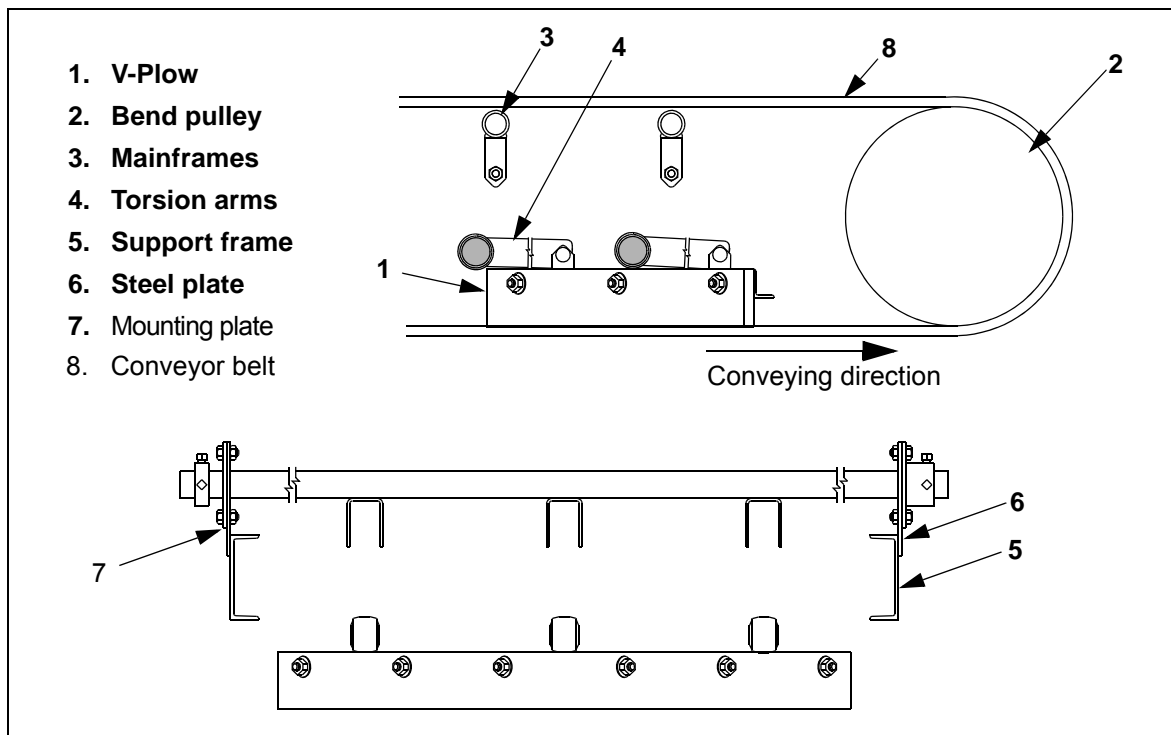
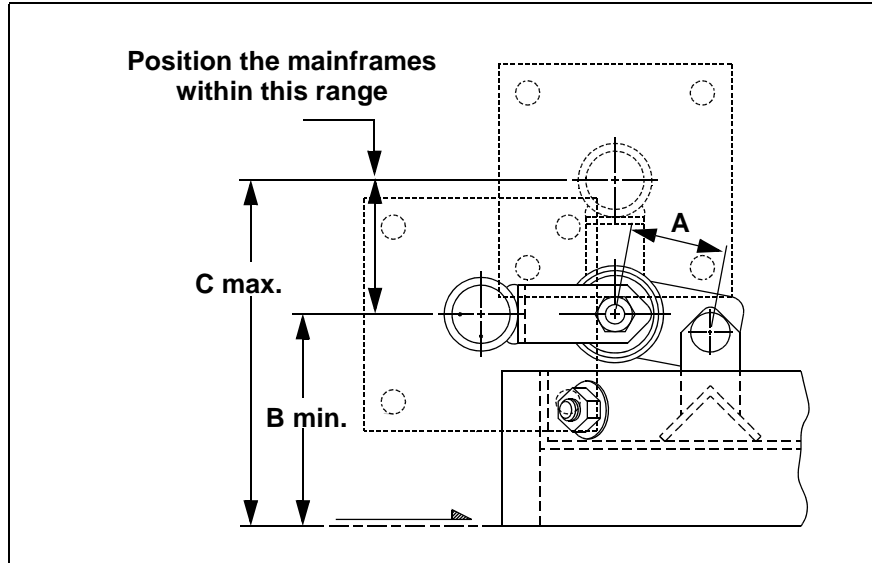

Fig. 1: Positioning of the MARTIN® TORSION ARM™ V-Plow on the conveyor belt
Fig. 2: Installation position of the mainframes
2. Position the mainframes (3, Fig.1) in accordance with Table (Tab. 3) and Figures 2 and 3.
- Example: The main frames can be positioned between 240 mm (2, Fig.1) and 323 mm above the conveyor belt when the torsion arm (4, Fig.1) with an arm length of 165 mm is used.
- If the support frame (5, Fig.1) is too low to bring the mainframes into the suitable position, then screw or weld four steel plates with thicknesses of at least 10 mm (6, Fig.1) onto the support frame.
- If the support frame is high enough to bring the mainframes into the suitable position, then screw or weld the mounting plates (7, Fig.1) for the mainframes directly onto the support frame.